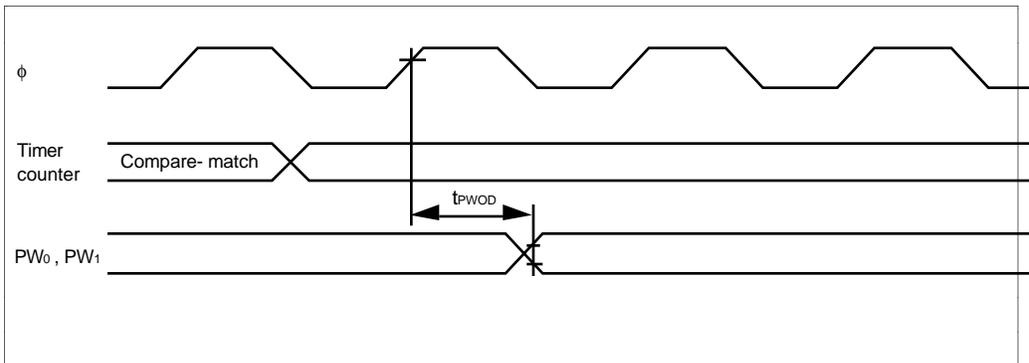

Figure 17-15 PWM Timer Output Timing
- 17.3.5 PWM Timer Timing Figure 17-15